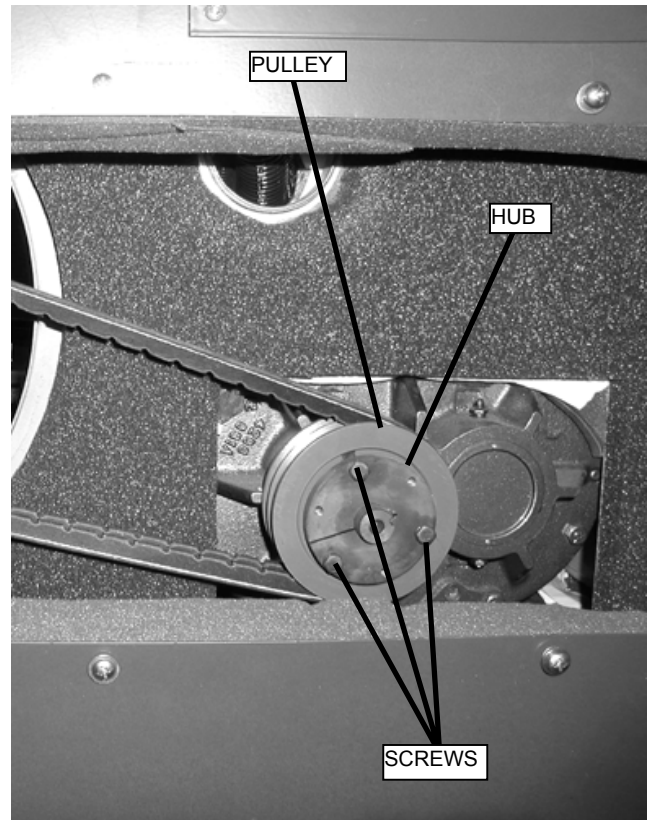

Figure 2. Blower Pulley Removal.
- d. Move the motor toward the blower using the adjusting bolts. Remove the drive belts (see Figure 2).
- e. Loosen the three (3) screws on the pulley hub. Remove the pulley and hub. Refer to Figure 2.